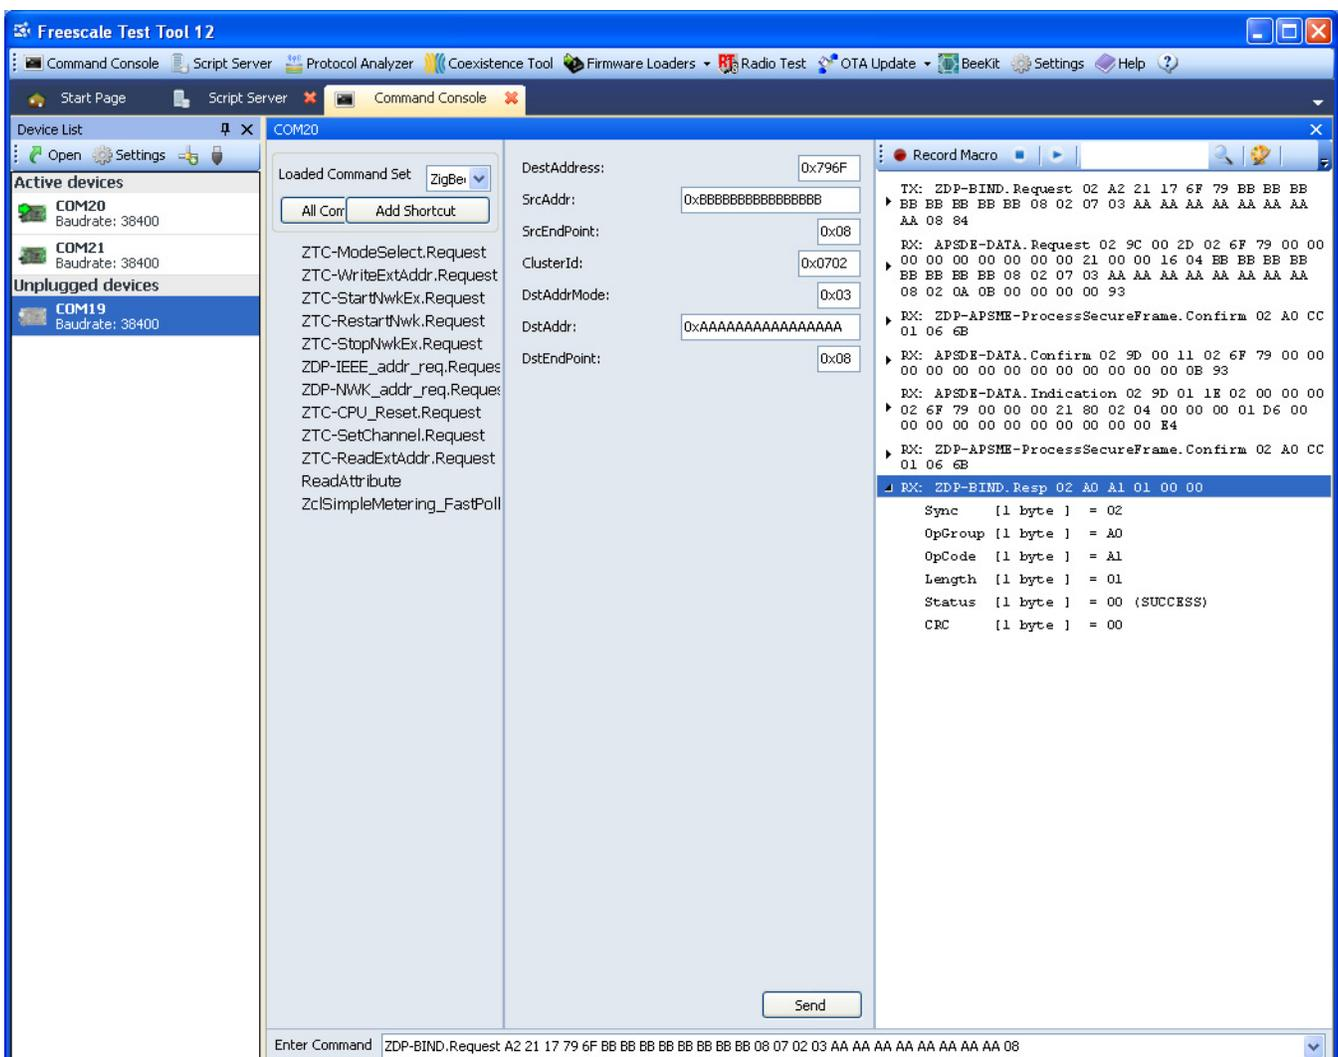

Figure 6-9. ZDP-Bind.Request Command Configuration
2. Set the parameters in the Request as follows (also shown in Figure 6-9):